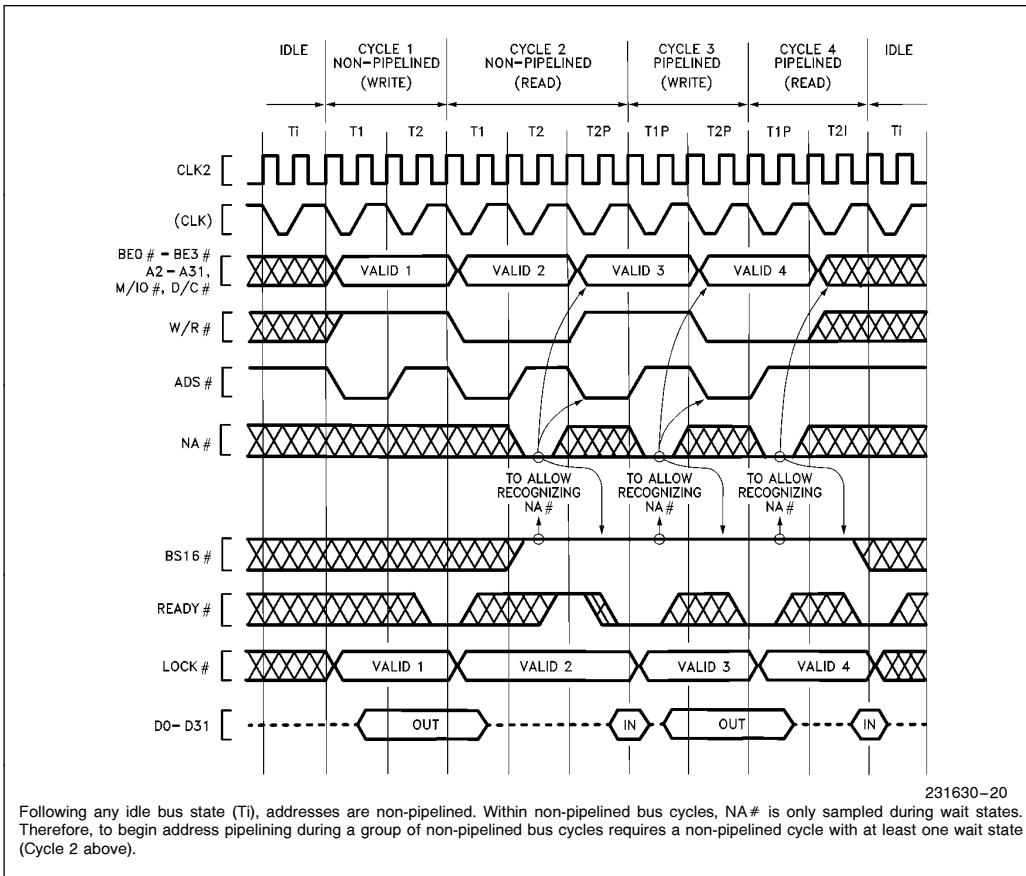
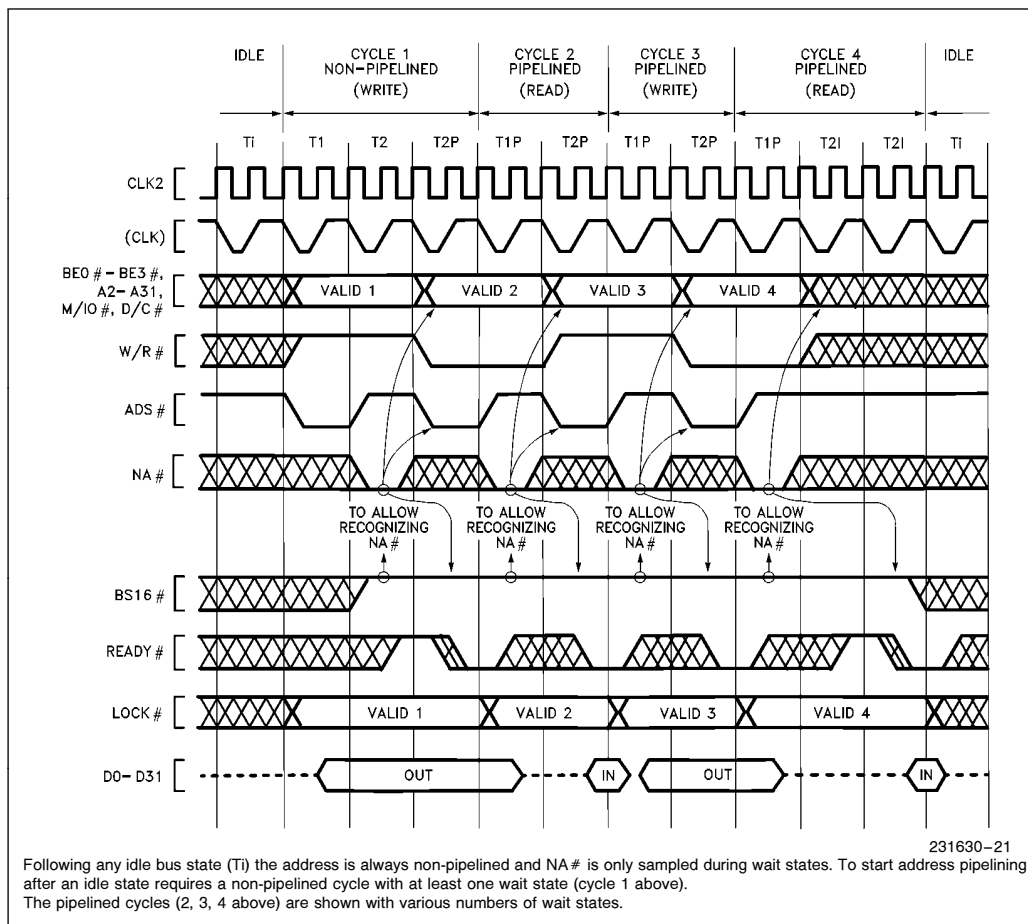
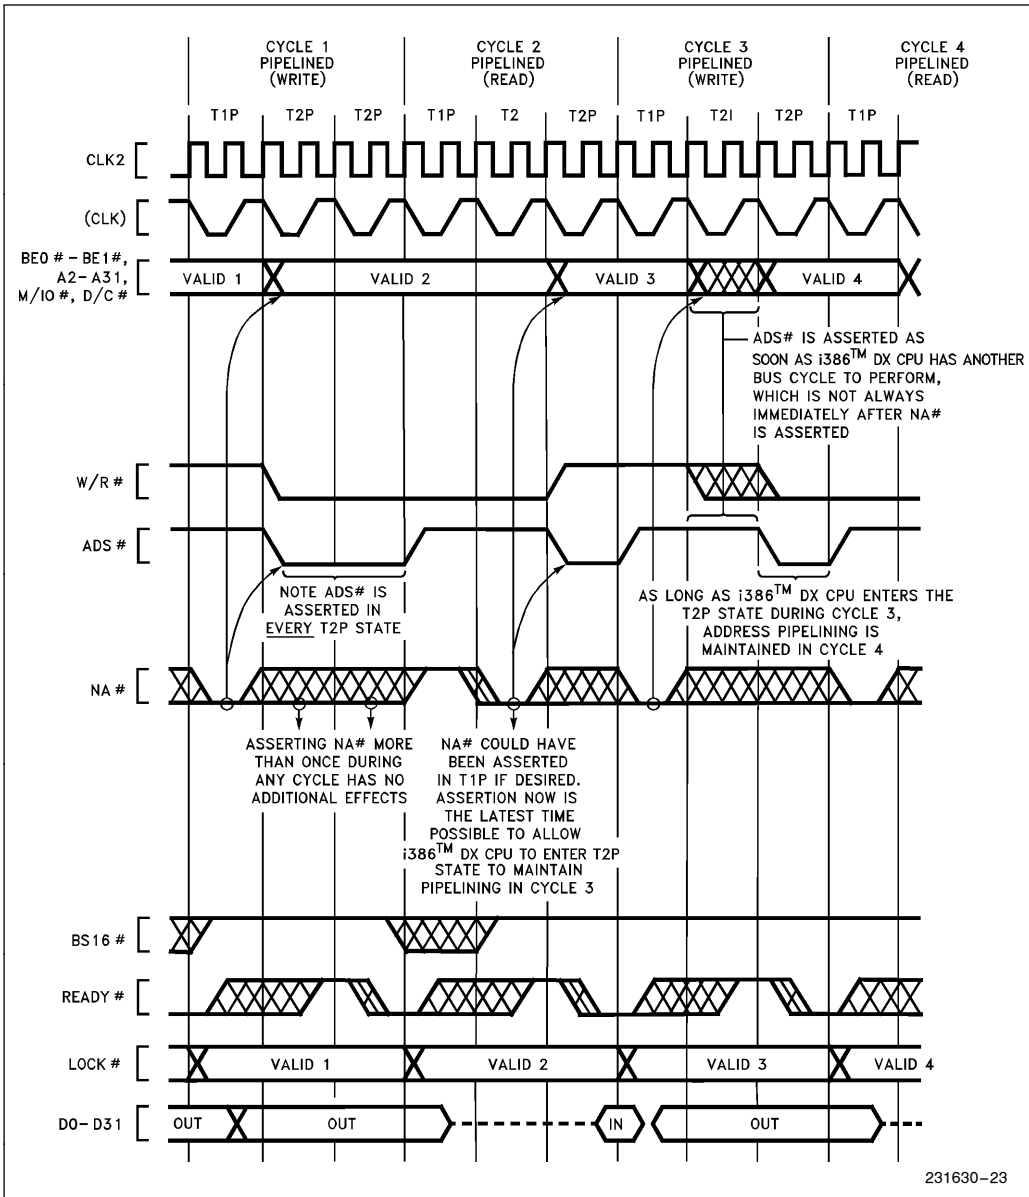

Figure 5-16. Transitioning to Pipelined Address During Burst of Bus Cycles
Figure 5-17. Fastest Transition to Pipelined Address Following Idle Bus State
Figure 5-19. Details of Address Pipelining During Cycles with Wait States
Once a bus cycle is in progress and the current address has been valid for at least one entire bus state, the NA# input is sampled at the end of every phase one until the bus cycle is acknowledged. During non-pipelined bus cycles, therefore, NA# is sampled at the end of phase one in every T2. An example is Cycle 2 in Figure 5-16, during which NA# is sampled at the end of phase one of every T2 (it was asserted once during the first T2 and has no further effect during that bus cycle).
- 1) For NA# to be sampled asserted, BS16# must be negated at that sampling window (see Figure 5-16 Cycles 2 through 4, and Figure 5-17 Cycles 1 through 4). If NA# and BS16# are both sampled asserted during the last T2 period of a bus cycle, BS16# asserted has priority. Therefore, if both are asserted, the current bus size is taken to be 16 bits and the next address is not pipelined.
- 2) The next address may appear as early as the bus state after NA# was sampled asserted (see Figures 5-16 or 5-17). In that case, state T2P is entered immediately. However, when there is not an internal bus request already pending, the next address will not be available immediately after NA# is asserted and T2I is entered instead of T2P (see Figure 5-19 Cycle 3). Provided the current bus cycle isn't yet acknowledged by READY# asserted, T2P will be entered as soon as the Intel386 DX does drive the next address. External hardware should therefore observe the ADS# output as confirmation the next address is actually being driven on the bus.
must assume the current bus size is 32 bits. Therefore if NA# is sampled asserted within a bus cycle, BS16# must be negated thereafter in that bus cycle (see Figures 5-16, 5-17, 5-19). Consequently, do not assert NA# during bus cycles which must have BS16# driven asserted. See **5.4.3.6 Dynamic Bus Sizing with Pipelined Address**.
- 4) Any address which is validated by a pulse on the Intel386 DX ADS# output will remain stable on the address pins for at least two processor clock periods. The Intel386 DX cannot produce a new address more frequently than every two processor clock periods (see Figures 5-16, 5-17, 5-19).
- 5) Only the address and bus cycle definition of the very next bus cycle is available. The pipelining capability cannot look further than one bus cycle ahead (see Figure 5-19 Cycle 1).
The transition to pipelined address is shown functionally by Figure 5-17 Cycle 1. Note that Cycle 1 is used to transition into pipelined address timing for the subsequent Cycles 2, 3 and 4, which are pipelined. The NA# input is asserted at the appropriate time to select address pipelining for Cycles 2, 3 and 4.
Once a bus cycle is in progress and the current address has become valid, the NA# input is sampled at the end of every phase one, beginning with the next bus state, until the bus cycle is acknowledged. During Figure 5-17 Cycle 1 therefore, sampling begins in T2. Once NA# is sampled asserted during the current cycle, the Intel386 DX is free to drive a new address and bus cycle definition on the bus as early as the next bus state. In Figure 5-16 Cycle 1 for example, the next address is driven during state T2P. Thus Cycle 1 makes the transition to pipelined address timing, since it begins with T1 but ends with T2P. Because the address for Cycle 2 is available before Cycle 2 begins, Cycle 2 is called a pipelined bus cycle, and it begins with T1P. Cycle 2 begins as soon as READY# asserted terminates Cycle 1.
Example transition bus cycles are Figure 5-17 Cycle 1 and Figure 5-16 Cycle 2. Figure 5-17 shows transition during the very first cycle after an idle bus state, which is the fastest possible transition into address pipelining. Figure 5-16 Cycle 2 shows a transition cycle occurring during a burst of bus cycles. In any case, a transition cycle is the same whenever it occurs: it consists at least of T1, T2 (you assert NA# at that time), and T2P (provided the Intel386 DX has an internal bus request already pending, which it almost always has). T2P states are repeated if wait states are added to the cycle.
Note three states (T1, T2 and T2P) are only required in a bus cycle performing a **transition** from non-pipelined address into pipelined address timing, for example Figure 5-17 Cycle 1. Figure 5-17 Cycles 2, 3 and 4 show that address pipelining can be maintained with two-state bus cycles consisting only of T1P and T2P.
Once a pipelined bus cycle is in progress, pipelined timing is maintained for the next cycle by asserting NA# and detecting that the Intel386 DX enters T2P during the current bus cycle. The current bus cycle must end in state T2P for pipelining to be maintained in the next cycle. T2P is identified by the assertion of ADS#. Figures 5-16 and 5-17 however, each show pipelining ending after Cycle 4 because Cycle 4 ends in T2I. This indicates the Intel386 DX didn't have an internal bus request prior to the acknowledgement of Cycle 4. If a cycle ends with a T2 or T2I, the next cycle will not be pipelined.